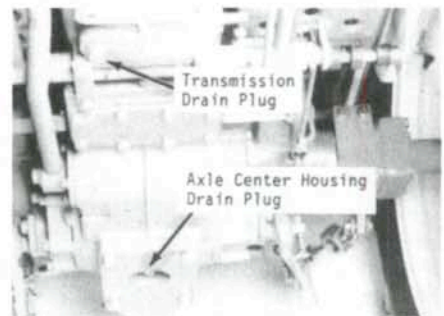

Fig. 259—View of oil drain plugs typical of 1910 and 2110 models.
On 1910 and 2110 models, oil drain plugs are located in bottom of transmission housing, rear axle center housing and drive housing for front wheel drive if so equipped. Refer to Fig. 259. Dipstick and filler opening are located in transmission top cover. The hydraulic system oil filter (1—Fig. 260) is located on top of pump (3) at right front corner of engine. To drain oil from filter prior to removal, remove plug (2) from banjo bolt fitting. With throttle in STOP position, crank engine for about 10 seconds. Remove filter and reinstall plug.